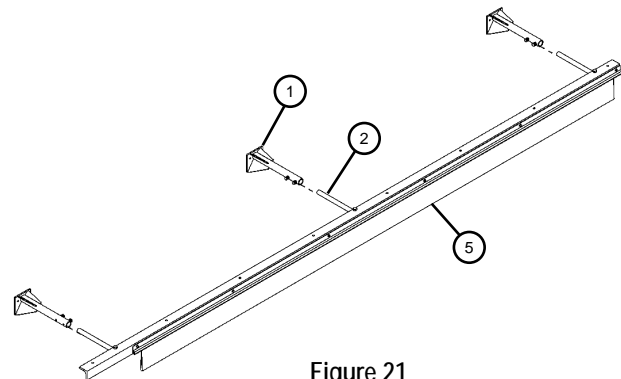

Figure 21
12. See *Figure 21*. Place Tube Mounts (1) from with screws Steps 10 & 11 onto Extension Tube - Rear Arm (2) and Brush (5) assembly from Step 9 and hand tighten screws.
13. See *Figure 21*. Place assembly from Step 12 onto tailgate and center with inside of trailer.